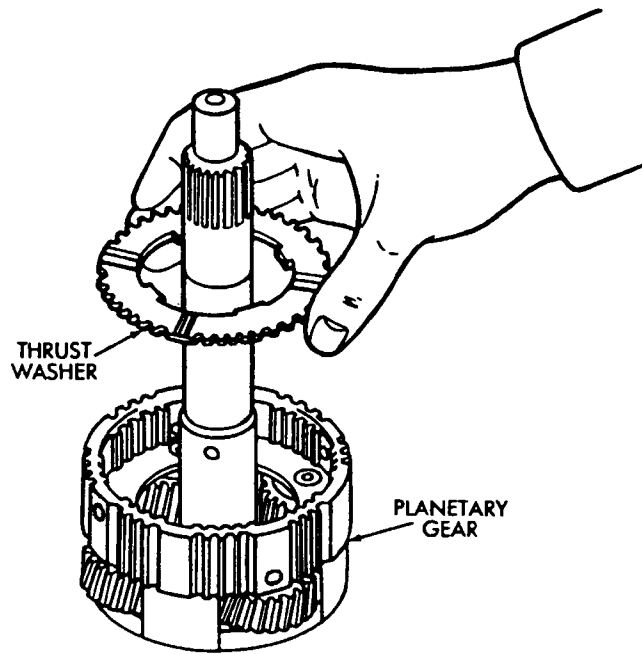

Fig. 20 Install Planetary Thrust Washer
(1) Install thrust washer in planetary gear (Fig. 20). **Grooved side of washer faces up and toward front.**